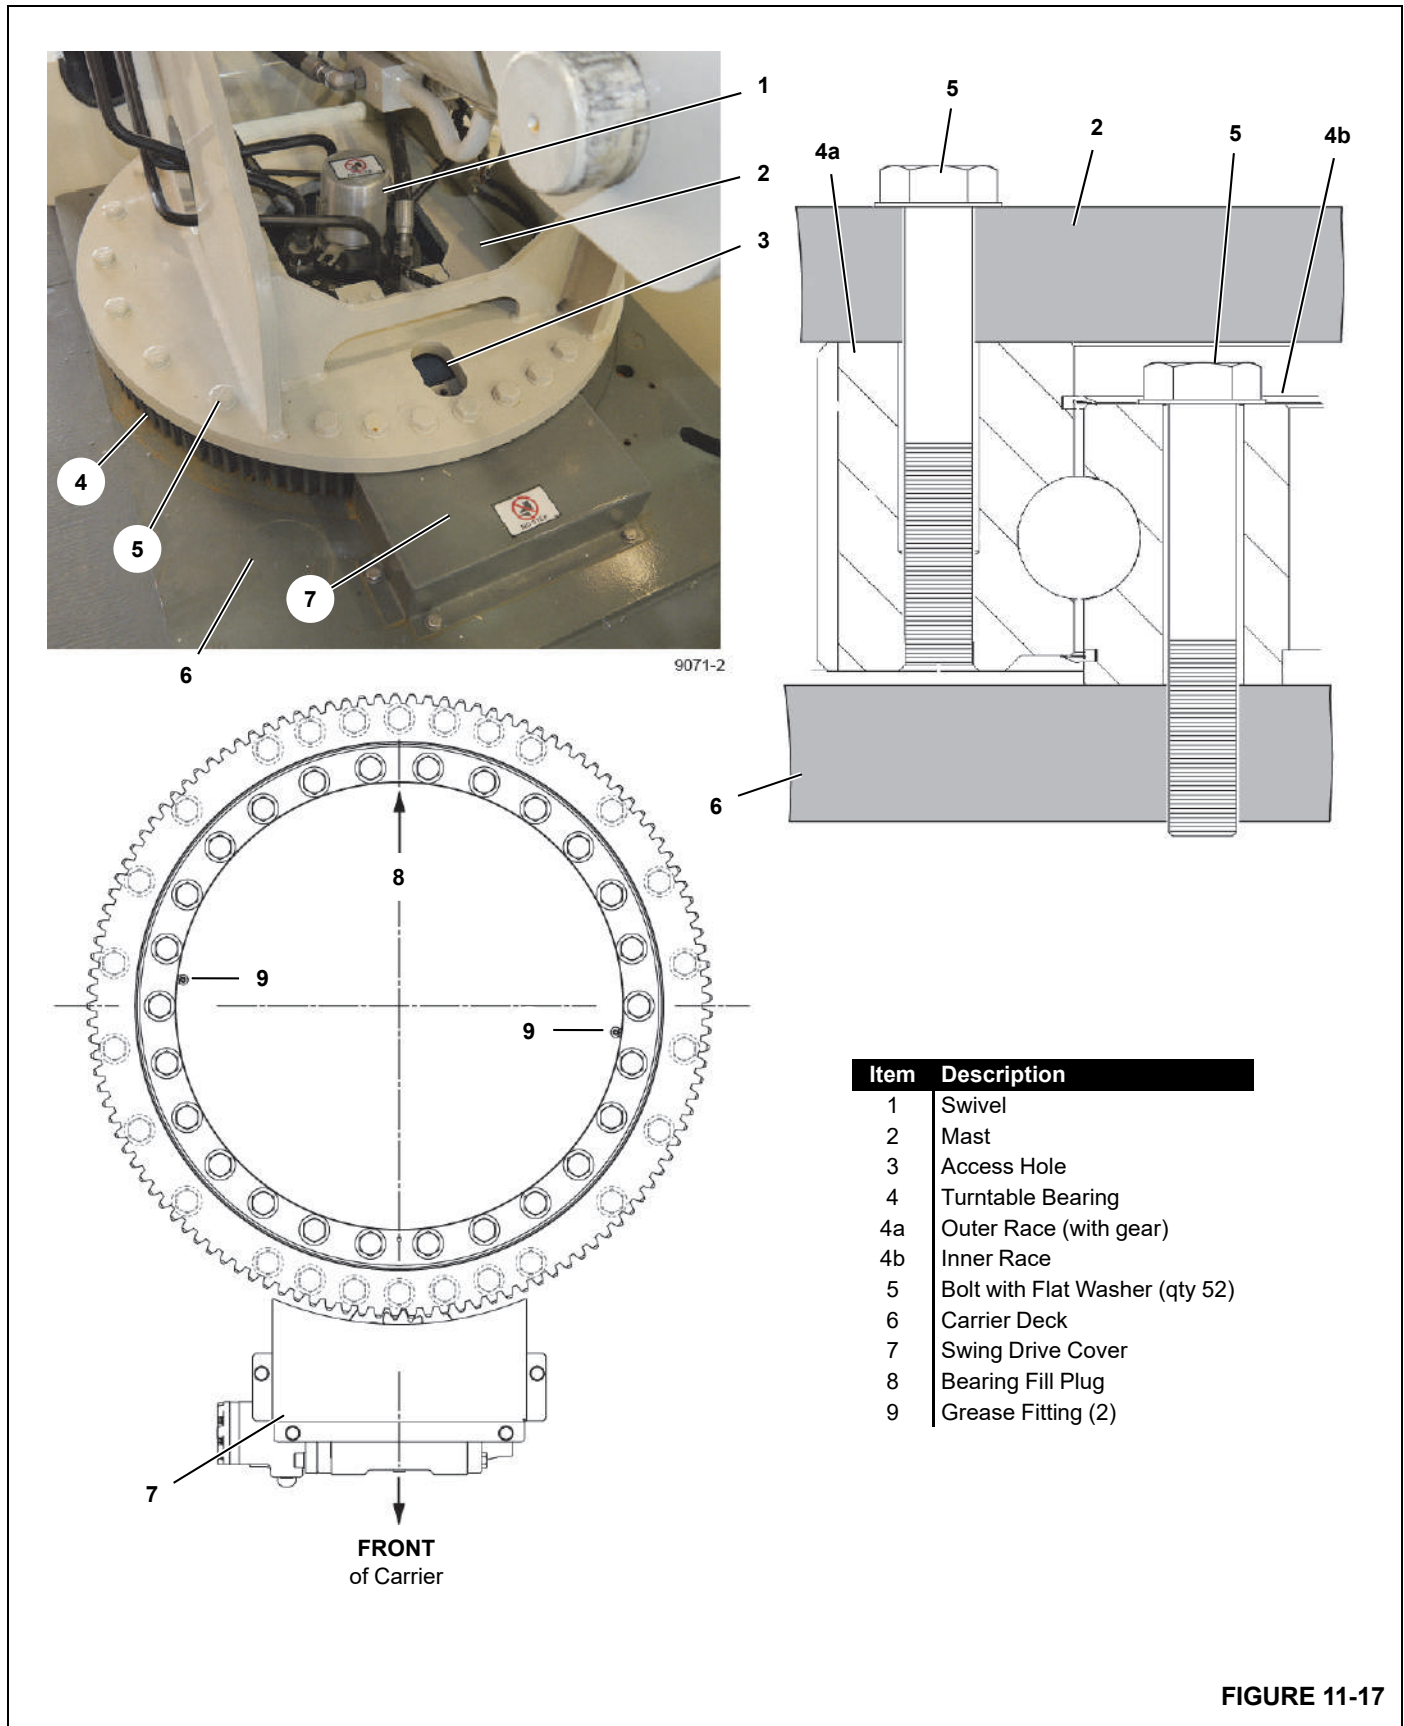

FIGURE 11-17
The mast is fastened to the carrier deck through a turntable bearing as shown in Figure 11-17.
The bearing has two grease fittings (9, Figure 11-17) 180° apart in the inner race. A slotted hole (3) in the mast plate provides access to the inner race bolts and to the grease fittings.